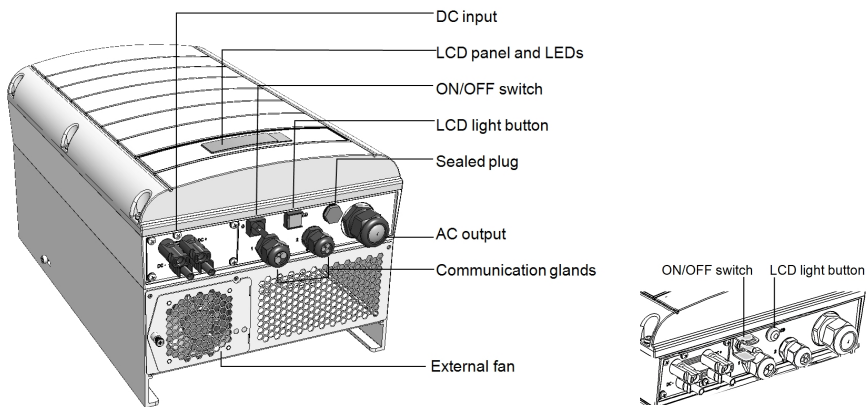

Figure 3: Inverter Interfaces
- Open the AC cable gland and insert the cable through the gland (see *Figure 3*).